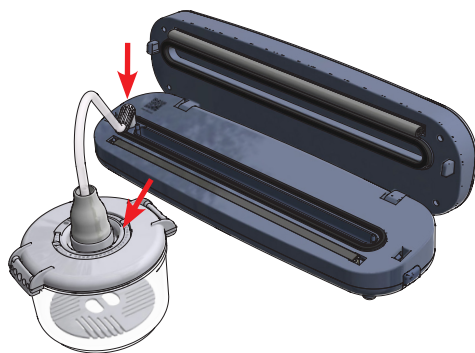

Figure 6: Vacuum sealing vacuum containers.
- Place and hold the other end of the attachment on the top of the valve of the chosen vacuum container (see Figure 6).
The vacuum container doesn't hold the vacuum.	• Make sure that your attachment is correctly inserted (as shown in Figure 6). • Make sure the container lid (especially gasket) is clean and dry and in the correct position. • Make sure the valve on the lid of the container is clean and dry. If needed, reassemble and clean it.